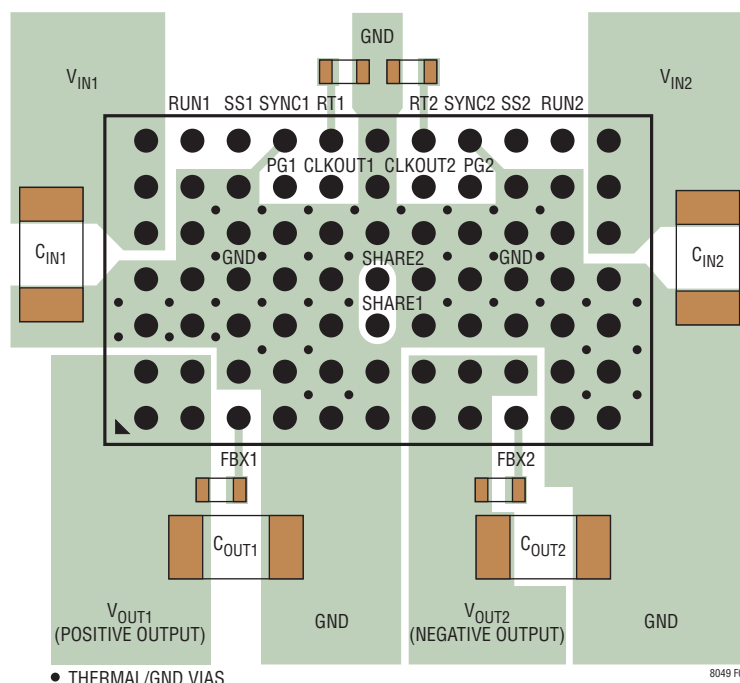

Figure 2. Layout Showing Suggested External Components, GND Plane and Thermal Vias
Most of the headaches associated with PCB layout have been alleviated or even eliminated by the high level of integration of the LTM8049. The LTM8049 is nevertheless a switching power supply, and care must be taken to minimize EMI and ensure proper operation. Even with the high level of integration, you may fail to achieve specified operation with a haphazard or poor layout. See Figure 2 for a suggested layout. Ensure that the grounding and heat-sinking are acceptable.
- Use vias to connect the GND copper area to the board's internal ground planes. Liberally distribute these GND vias to provide both a good ground connection and thermal path to the internal planes of the printed circuit board. Pay attention to the location and density of the thermal vias in Figure 2. The LTM8049 can benefit from the heat-sinking afforded by vias that connect to internal GND planes at these locations, due to their proximity to internal power handling components. The optimum number of thermal vias depends upon the printed circuit board design. For example, a board might use very small via holes. It should employ more thermal vias than a board that uses larger holes.